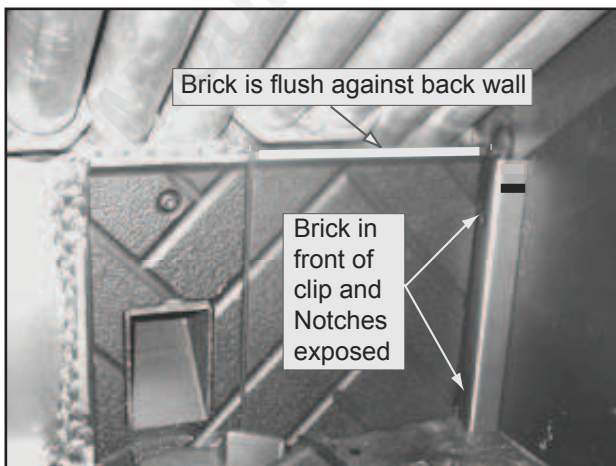

Figure 38.2
2. The brick will be flush against the back wall and the bracket's notches will be exposed. **Figure 38.2.**